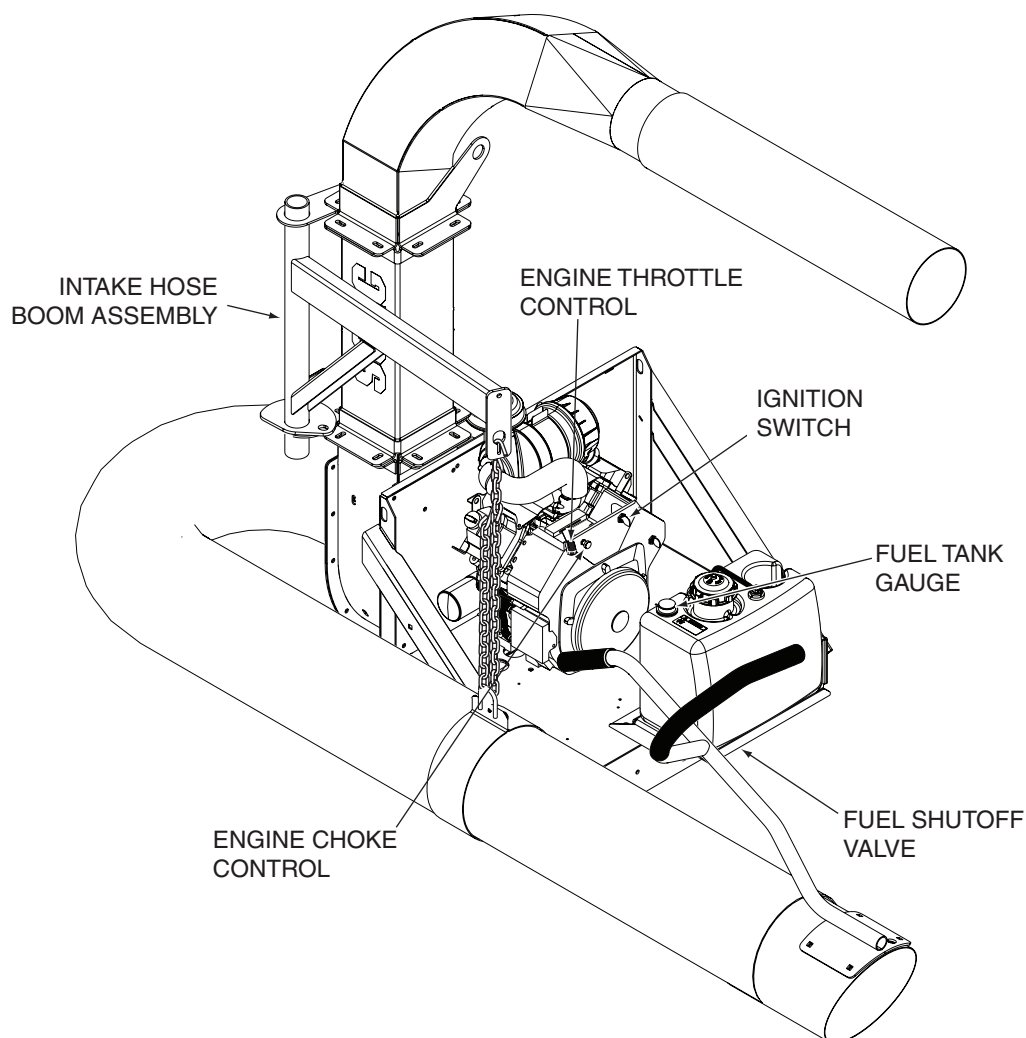

Figure 4-1. Controls and Instruments - TLH Model Shown
1. **Ignition Switch (Figure 4-1).** The ignition switch is used to start the engine and has three positions; OFF, ON, and START.
2. **Engine Throttle Control (Figure 4-1).** Used to control the engine speed. Pushing the lever inboard increases engine speed. Pulling the lever outboard decreases engine speed. Full outboard position is the IDLE position. Full inboard is the operating position.
3. **Engine Choke Control (Figure 4-1).** Used to start a cold engine.
4. **Fuel Shutoff Valve (Figure 4-1).** Located under the fuel tank. Used to shut off fuel supply to the engine. Rotate the valve counter clockwise to supply fuel. Rotate the valve clockwise to shut off fuel supply.
5. **Intake Hose Boom Assembly (Figure 4-1).** Used to support the intake hose. The support chain can be raised or lowered until the intake nozzle floats 2-3 inches from the ground to help make operation easy and comfortable.
2. Be sure the fuel shutoff valve, located under the fuel tank, is completely open. See Figure 4-1.